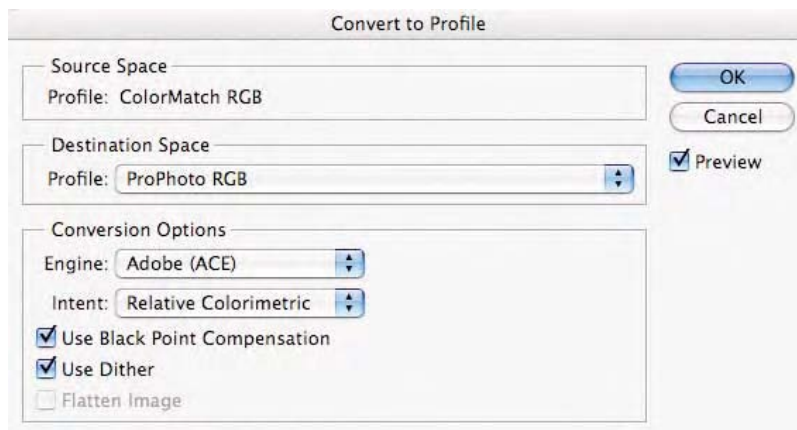

Fig. 9-8-2 The **Convert to Profile** command should be set as seen here.
3. Once the **Printer_Test_File.tif** is open, choose **Image-Duplicate**, give it a new name, and click **OK**. With this new document, the active window select the **Convert to Profile** command and convert it into Adobe RGB (1998) or even better, ProPhoto RGB as seen in Fig. 9-8-2.